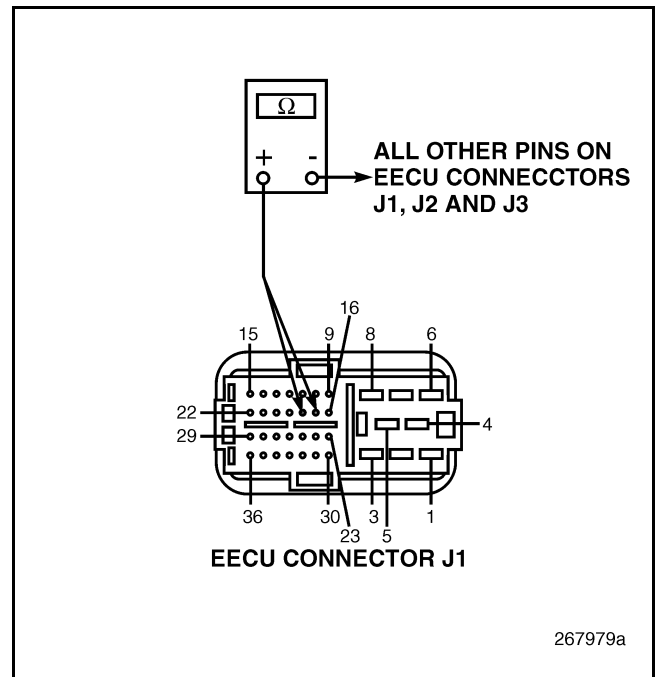

Figure 636
5. Check for continuity between EECU connector J1 pins 17 and 18 and all other pins on EECU connectors J1, J2 and J3 (see Figure 636).